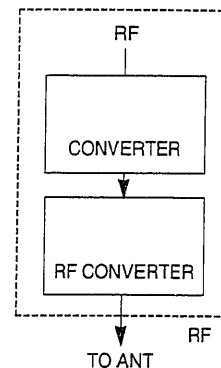

Fig. 1-5-1. Checking jig (all channel converter can be used).
- Connect the jig shown in Fig. 1-5-1 to the ANT terminal.